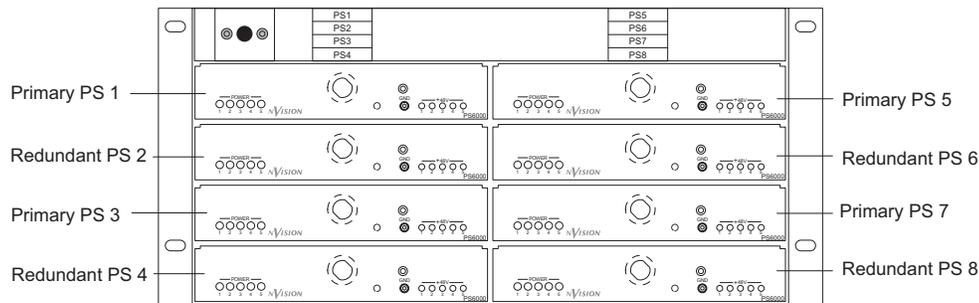

Figure 3-8. NV6257 Power Supply Power Supply Module Slots (Front View)
- 10 Facing the front of the **NV6257**, install the primary PS6000 power supply modules in slots *PS 1*, *PS 3*, *PS 5* and *PS 7*, as shown in Figure 3-8.
- 11 (Optional) Facing the front of the **NV6257**, install optional redundant PS6000 power supply modules in slots *PS 2*, *PS 4*, *PS 6* and *PS 8*, as shown in Figure 3-8.